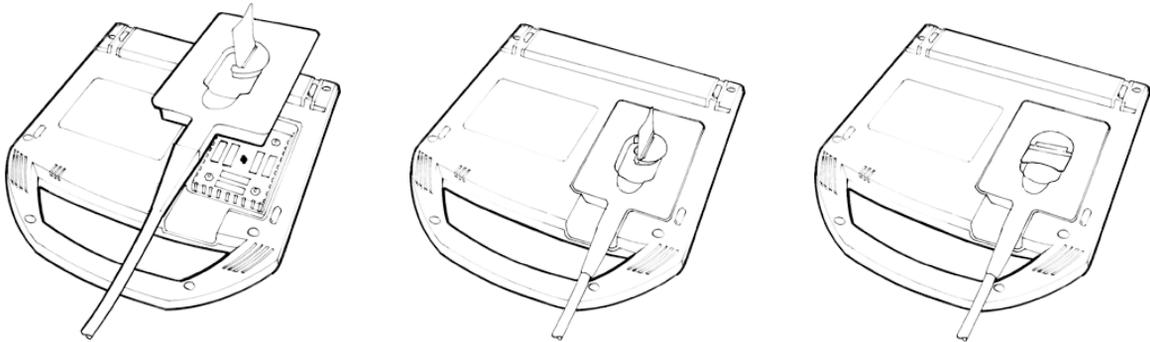

Figure 2 Connect the Transducer
- 1 Connect the DC power cable from the power supply to the connector on the system. See Figure 2 on page 4.